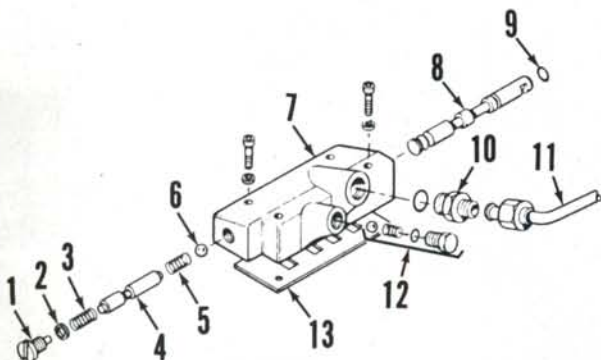

Fig. 201—Exploded view of Multi-Power shift control valve. Spring (5) and ball (6) are not used on some models.
**170.** The Multi-Power shift control valve is removed with the pto input shaft and retainer as outlined in paragraph 169. To disassemble the removed valve, remove inlet fitting (10—Fig. 201) and detent assembly (12). Withdraw shift valve (8) from valve body. Remove plug (1), spring (3) and regulator valve (4). Remove spring (5) and ball (6) if used.